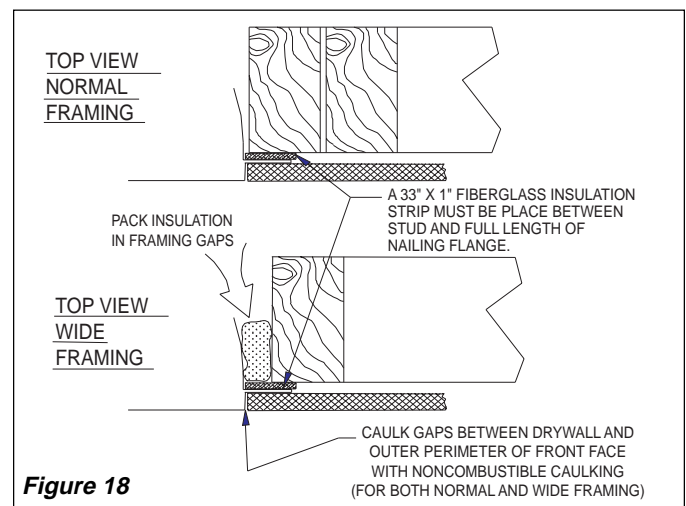

Figure 18
NOTE: The 3/4" clearance is not required at the nailing flange (see Figure 18).
7. Before finishing the fireplace enclosure, inspect all joints around fireplace periphery. Any gaps between the nailing flanges and the framing should be sealed with noncombustible installation or caulking (see Figure 18). If the fireplace is mounted on a raised platform, insulate below the platform to prevent cold air permeation (by means of conduction).